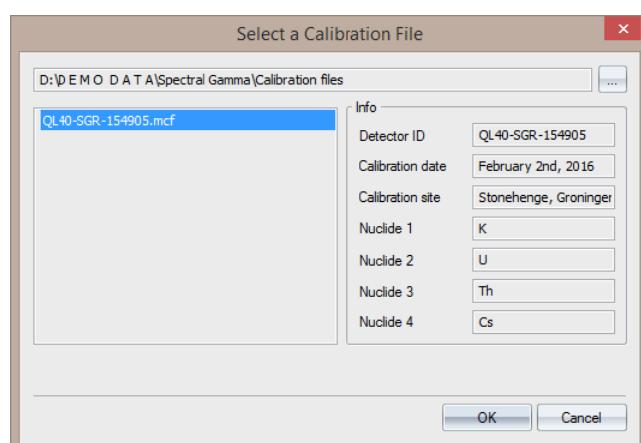

Figure 5 - Calibration file selection and info
Click the options button (5) to load the calibration file corresponding to the logging tool that recorded the data. A separate dialog box opens (figure 5).